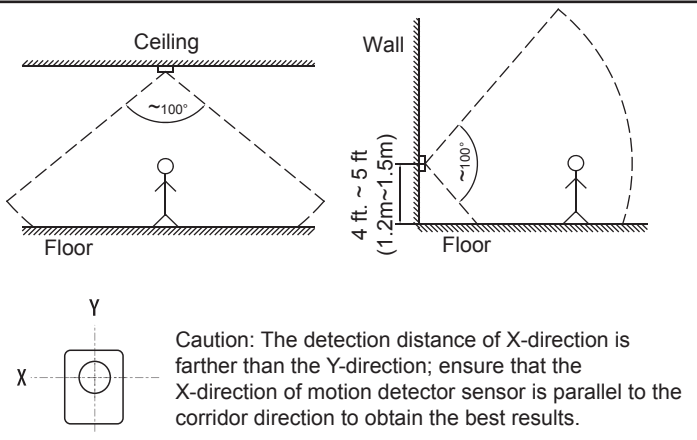

Figure 3. Mounting the Sensor
- Time period and unoccupied setpoint offset can be set using a wired local controller, V0STAT51P-3 or V0STAT54P-3. See Figure 3.